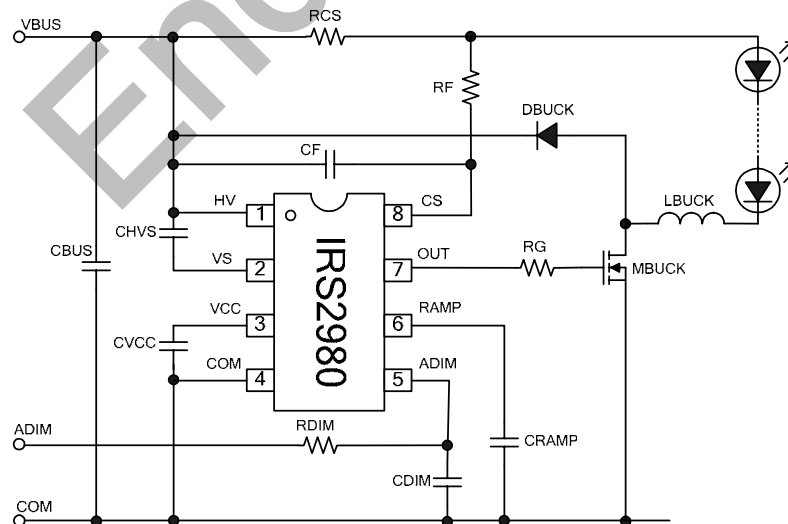

Figure 2: IRS2980 Basic Schematic
Figure 2 illustrates how the current is sensed by differentially measuring the voltage between the HV and CS inputs, RF and CF have been added to provide noise filtering. When the MOSFET (M_{BUCK}) is switched on the current in the inductor L_{BUCK} rises linearly according to the relationship:
The IRS2980 contains an internal high voltage regulator to supply VCC from the high voltage DC bus. Figure 2 shows that pin 1 (HV) is connected directly to the DC bus. Current is supplied to the VCC supply at pin 2 through an internal current source capable of operating up to 450V. The internal regulator can supply up to 3mA, which is sufficient to supply VCC for most MOSFET gate capacitances and frequencies normally required in an LED driver. ICC can be reduced by selecting a MOSFET with a low gate capacitance (25nC or less) and selecting an inductance (LBUCK) that will allow the regulator to operate at a reduced frequency. A regulator operating at 60kHz for example will require much less ICC than one operating at 120kHz. As explained earlier this is a tradeoff against inductor size. It is also important to consider the temperature rise of the IRS2980. Since the internal regulator operates linearly the associated power loss is dependent on bus voltage and ICC.